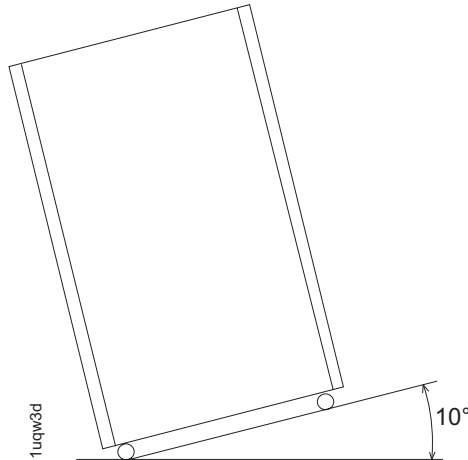

Figure 15. Maximum tilt for a packed unit is 10°
3. To compensate for the weight of the DS8000 shipment, ensure that the loading ramp at your site does not exceed an angle of 10°. (See Figure 15.)